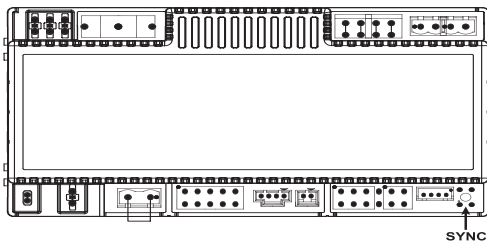

FIG 1: IFC BOARD
5. Wait five (5) minutes to clear out any gas. Then smell for gas, including near the floor. If you smell gas, **STOP!** Follow "B" in the safety information above. If you don't smell gas, go to the next step.
6. You must now synchronize the wall mount / remote with the IFC board (for 1st time use) by pressing the SYNC button **FIG 1** followed by pressing the "ON" button on the wall mount / remote. (**FIG 2**)
1. Press the "OFF" button on the wall mount / remote. (**FIG 1**)